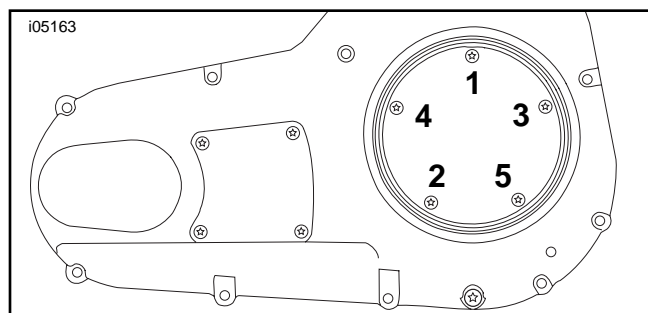

Figure 10. Torque Sequence, Primary Chaincase Cover
4. See Figure 10. Tighten the derby cover screws, in the sequence shown, to 84-108 in-lbs (10-12 Nm).